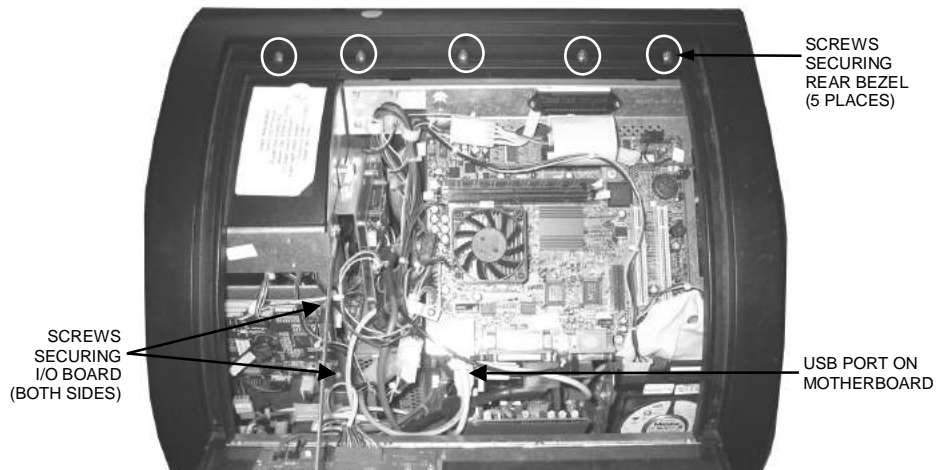

FIGURE 5 - REAR VIEW OF RADION GAME
3. Remove the 4 screws securing the I/O board (see Figure 5) and remove the I/O
board from the game as far as the cabling will allow. You may need to remove the bezel in order to access the screws securing the I/O board. To do this, unlock and remove the other side door and remove the 7 screws securing the rear bezel (see Figure 5).
15. If you removed the bezel, replace it and secure using the same 7 screws. Refer to Figures 5 and 6.